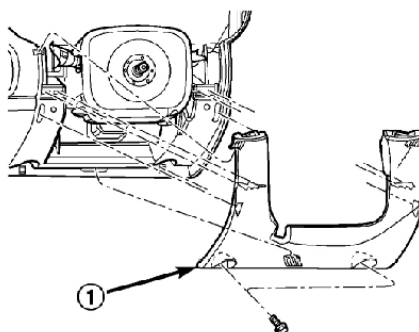

Figure 3-16 Lower cap of steering column
- (5) Remove the lower dash board (Figure 3-16).